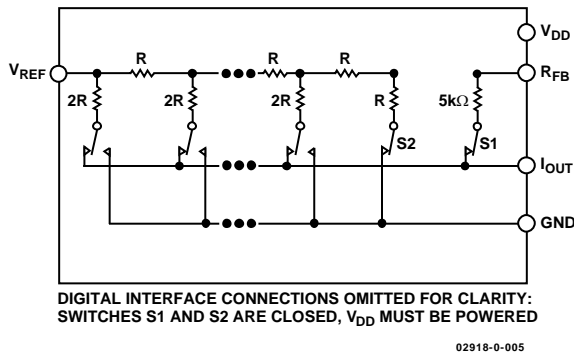

Figure 16. Equivalent R-2R DAC Circuit
The DAC architecture uses a current-steering R-2R ladder design. Figure 16 shows the typical equivalent DAC. The DAC contains a matching feedback resistor for use with an external I-to-V converter amplifier. The R_{FB} pin is connected to the output of the external amplifier. The I_{OUT} terminal is connected to the inverting input of the external amplifier. These DACs are designed to operate with both negative or positive reference voltages. The V_{DD} power pin is used only by the logic to drive the DAC switches ON and OFF. Note that a matching switch is used in series with the internal 5 k Ω feedback resistor. If users attempt to measure the R_{FB} value, power must be applied to V_{DD} to achieve continuity. The V_{REF} input voltage and the digital data (D) loaded into the corresponding DAC register, according to Equation 1 and Equation 2, determine the DAC output voltage.